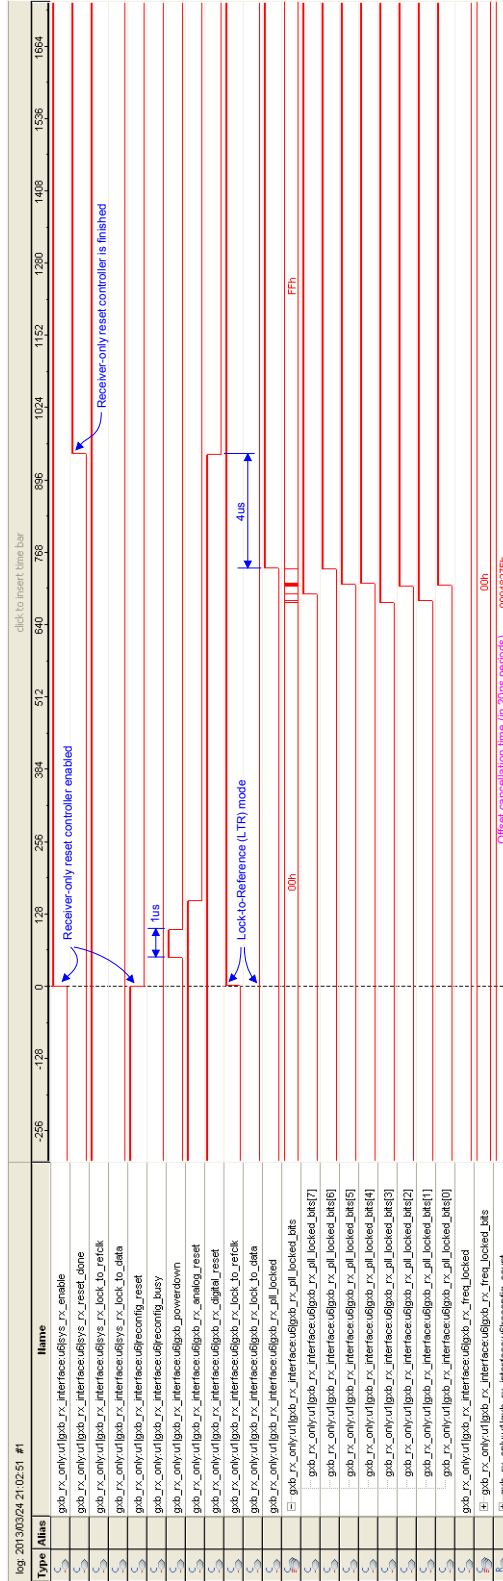

Figure 17: Altera Transceiver Receiver-only reset controller (LTR mode) re-enable (after power-on).
- Figure 17 shows the reset sequence performed again, after the power-on reset sequence has completed, i.e., the reset controller was enabled at power-on, disabled, and then re-enabled to produce the traces in the figure.